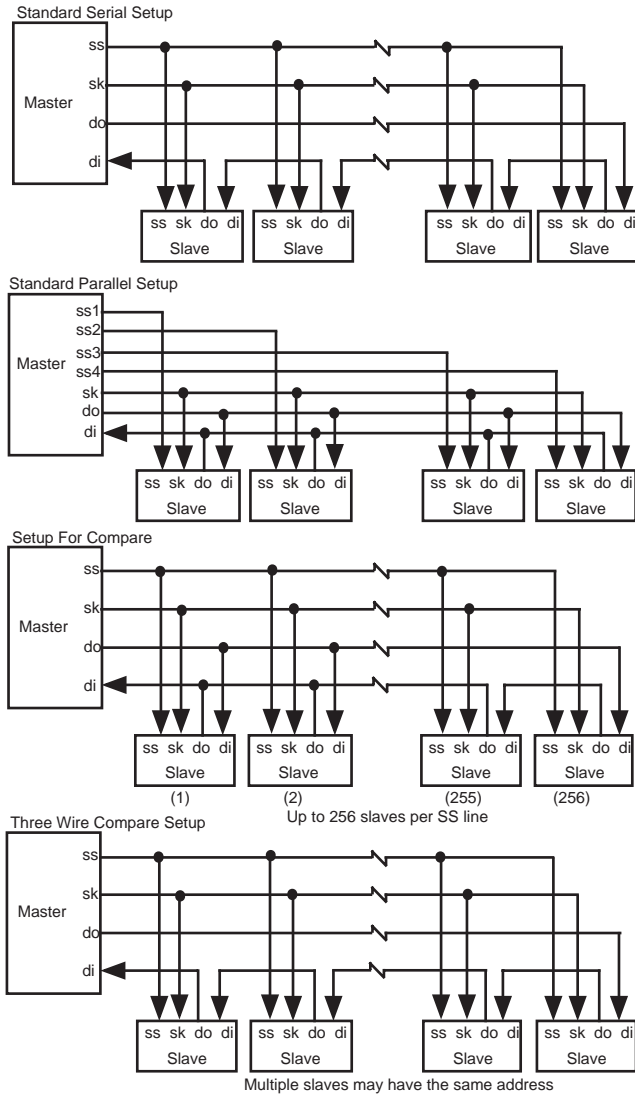

Figure 117. SPI System Configuration
The SPI is used in one of two modes: either as system slave, or as system master. Several of the possible system configurations are shown in Figure 117. In slave mode, data transfer starts when the slave select (SS) pin goes active. Data is transferred into the slave's SPI Shift Register through the DI pin, which has the same address as the RxBUF Register. After a byte of data has been received by the SPI Shift Register, a Receive Character Available (RCA/IRQ3) flag and interrupt is generated. The next byte of data will be received at this time. The RxBUF Register must be cleared, or a Receive Character Overrun (RxCharOverrun) flag will be set in the SCON Register, and the data in the RxBUF Register will be overwritten. When the communication between the master and slave is complete, the SS goes inactive. When the SPI is activated as a slave, it operates in all system modes: STOP, HALT, and RUN.